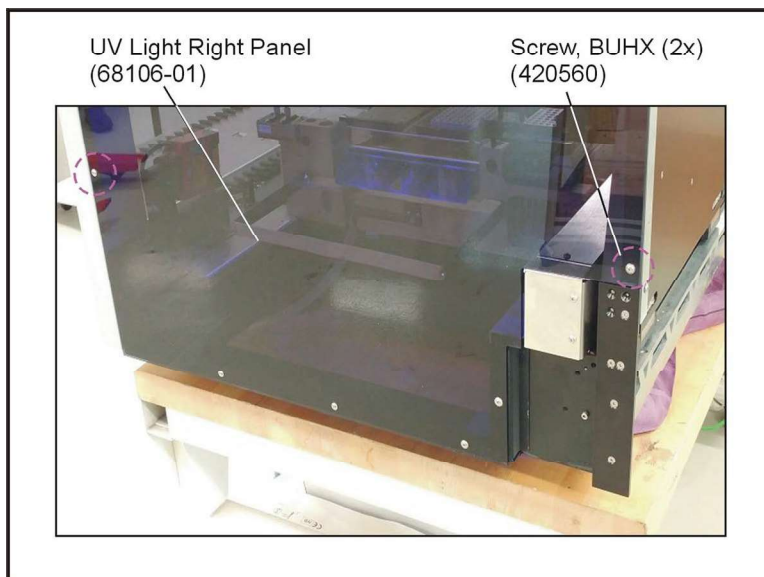

Figure 2-24: UV Light Right Panel installed on instrument
14. Install the UV Light Right Panel (68106-01) using the two BUHX screws (420560) that are used to install the standard right panel (Figure 2-24).